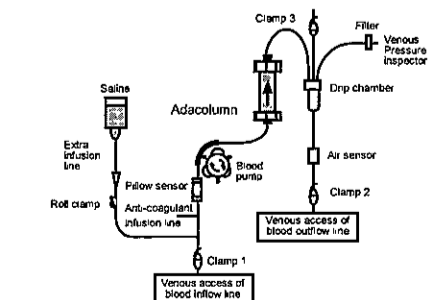

Fig. 3
- 2) Connect the blood inflow line and the blood outflow line to the venous access established above (Fig. 3). Alternatively, it is possible to connect the blood outflow line to the venous access only when the blood reaches the end of the blood outflow line.